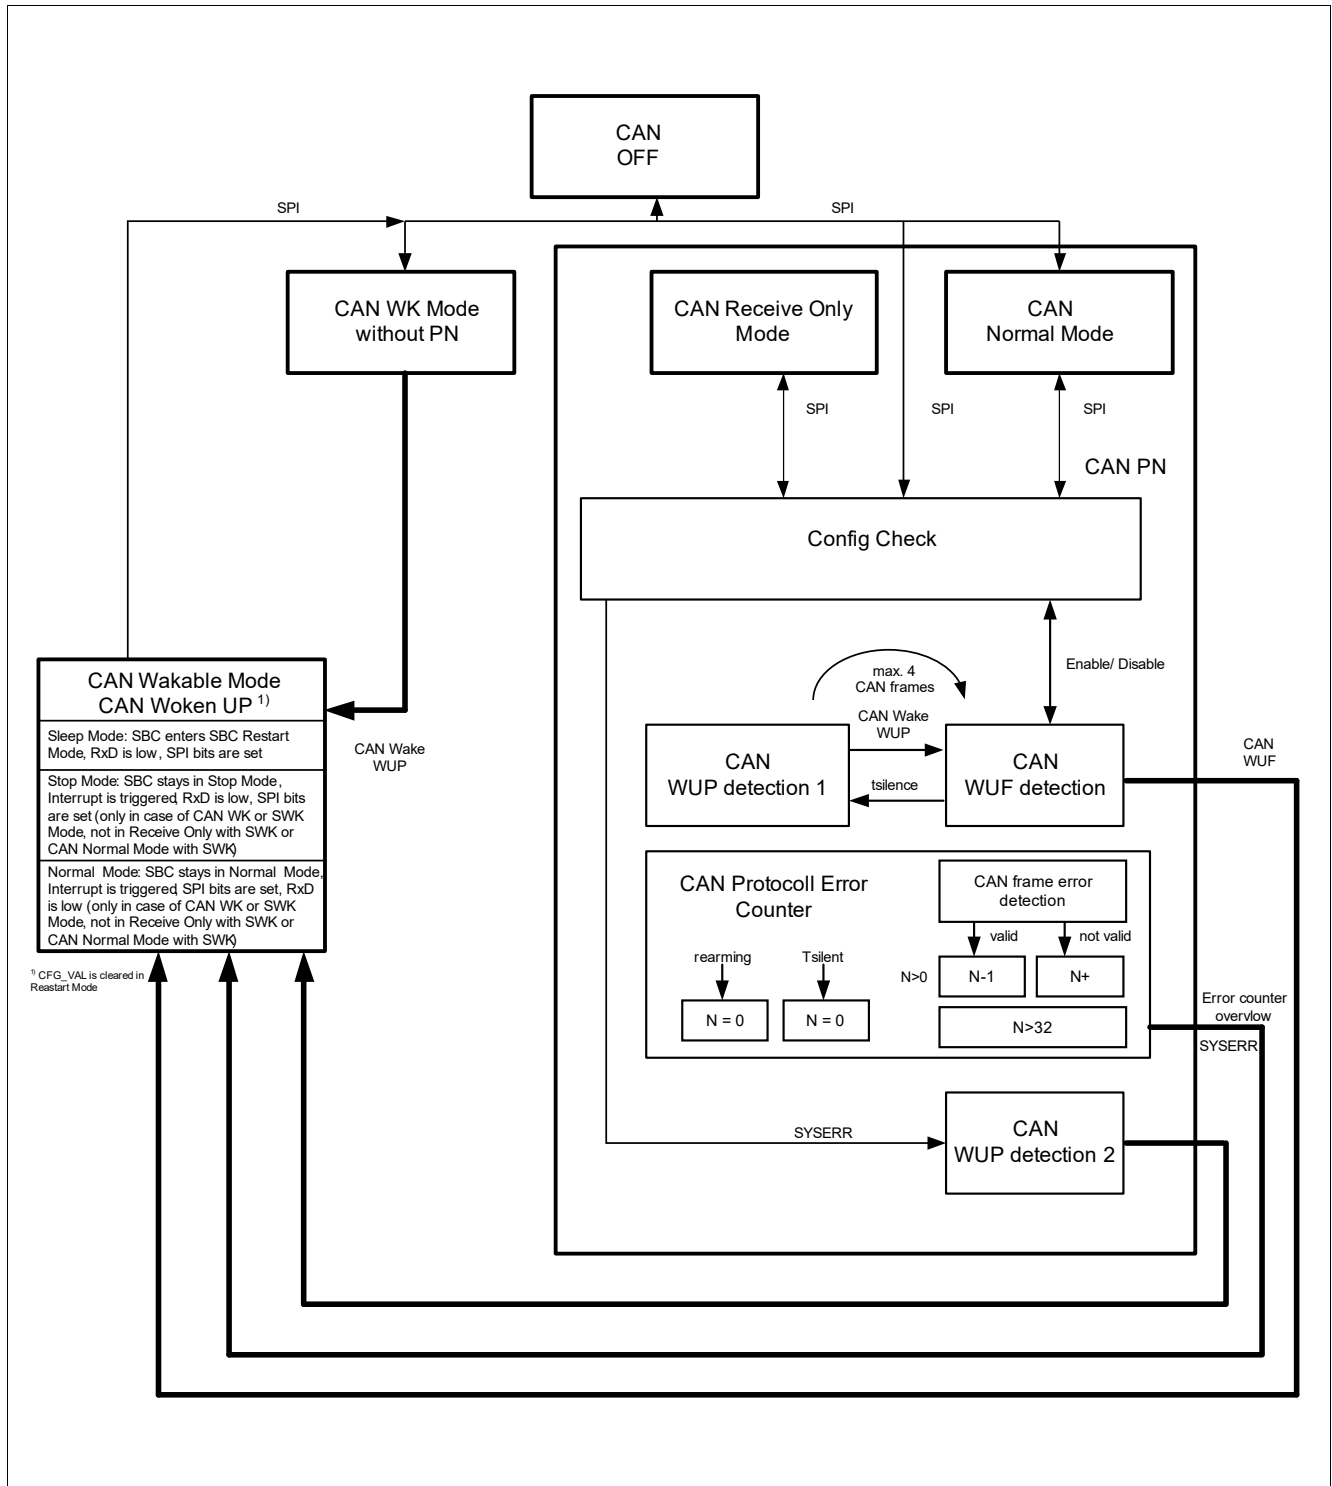

Figure 11 CAN Selective Wake State Diagram
*Note: It is possible that WUF and WUP bit are set at the same time if a WUF causes a wake out of SWK, by setting the interrupt or by restart out of SBC Sleep Mode. The reason is because the CAN has been in WUP detection 1 state during the time of SWK mode (because of  $t_{\text{SILENCE}}$ ). See also Figure 11.*
The **SWK\_SET** bit is set to signalize the following states (see also **Figure 11**):